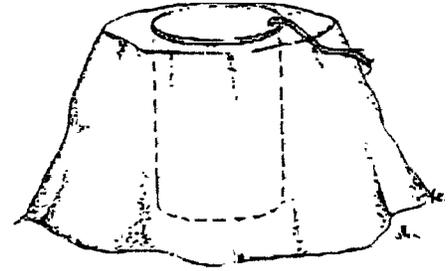

Figure 1
**Figure 1.** Dig a hole in the center of the sand pile large enough to insert a 55 gallon drum (as in figure 1) or dump sand over the barrel at delivery time. Brick, block, or rock can be heated using the same method-